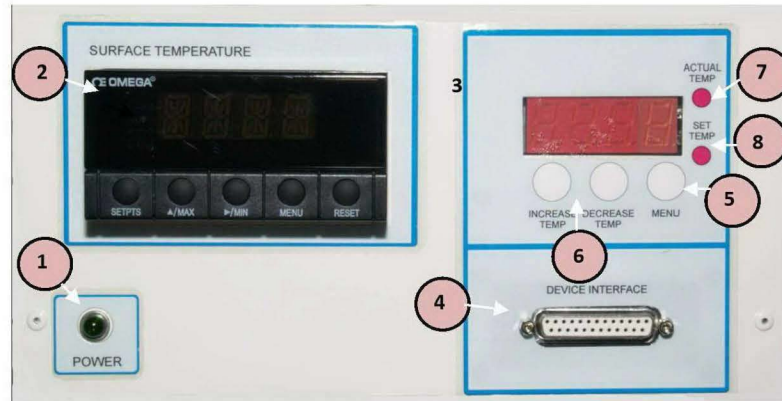

FIGURE 9.1: FRONT PANEL – COOLER CONTROLLER
Connect the hand-held Cooling System Applicator to the Controller Interface port (Item 4 as shown in Figure 9.1).
Green LED 	Power Green Light – Power On [Item 1 in Figure 9.1]
Red LED 	Actual Temperature Red Light – Display indicates measured temperature [Item 7 in Figure 9.1]
Red LED 	Set Temperature Red Light – Display indicates the set target temperature [Item 8 in Figure 9.1]
Device Interface 25 pin D-Sub female connector Connection for the Cooling System Applicator. [Item 4 in Figure 9.1]
5. Connect the Cooling System Applicator to the Cooler Controller via a DB-25 connector (Item 4 in Figure 9.1).
6. The Menu button toggles between the set temperature and the measured temperature (Item 5 in Figure 9.1).
7. Use the Increase Temperature and Decrease Temperature buttons to set the Cooler Controller to a temperature desired on the Cooling System Applicator (Item 6 in Figure 9.1). The minimum set temperature is 15°C and the maximum is 40°C
8. The display on the left (Item 2 in Figure 9.1) indicates an additional surface temperature measurement taken near the side of the contact plate on the Cooling System Applicator. The main measured surface temperature measurement is taken at the center of the contact plate. By observing both temperatures proper operation of the cooling system can be verified. If the two displayed temperatures are not within 3 degrees turn off the Cooling Controller, discontinue treatments and contact a Primaeva Medical representative.